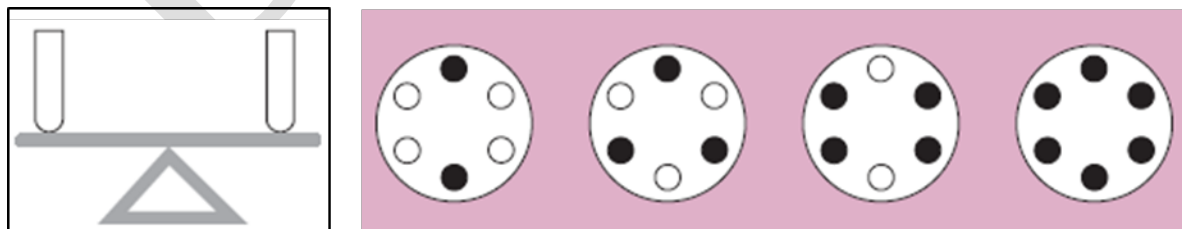

Fig.5 Loading samples symmetrically
5.4.1 Load the filled containers symmetrically into the rotor (fig.5). Opposing tubes must be filled to the same level with liquid of the same density. **The maximum allowable imbalance of opposing loads is 2 grams for JA-18 and 10 grams for JLA-16.250.**